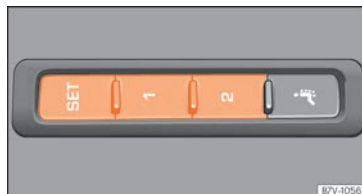

Fig. 161 Memory buttons on the outside of the driver seat
- Keep the **SET** button held down for more than one second » **Fig. 161**.